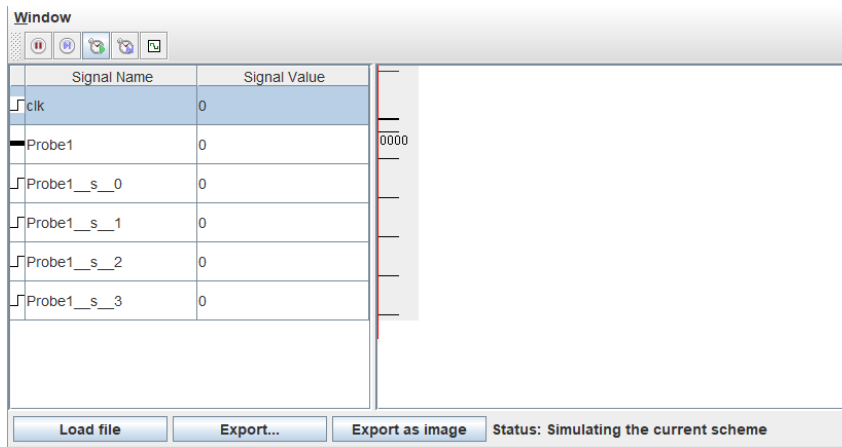

Figure 7.11: Chronogram At Zero Time
13. At this point, the chronogram should look like Figure 7.11.